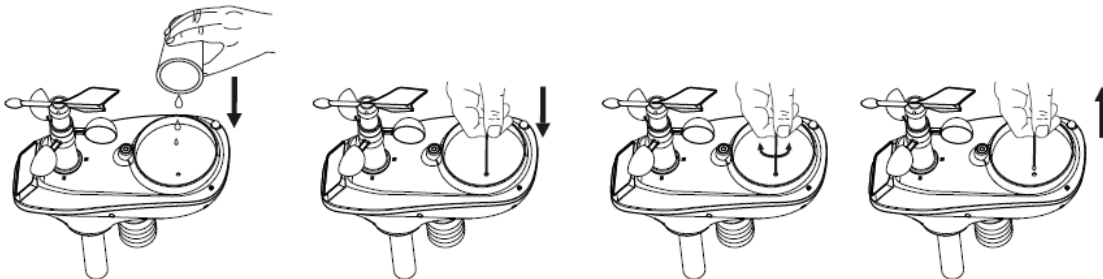

Figure 53
1. Clean the rain gauge once every 3 months as follows. Reference Figure 53.